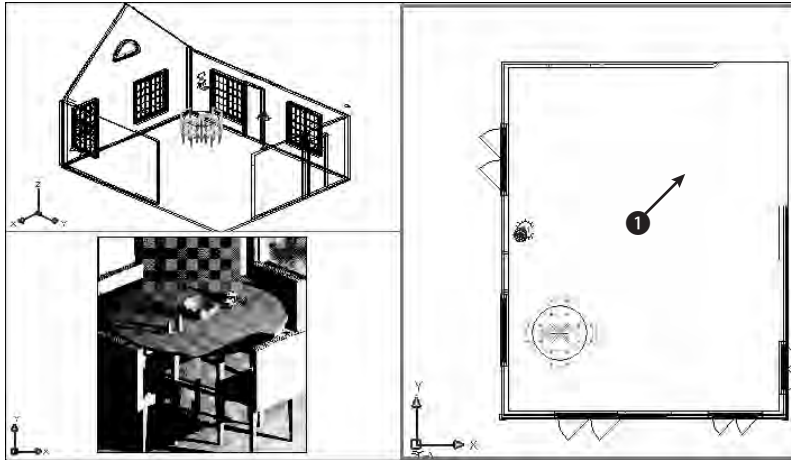

Figure 27-11: The drawing with a rendered view in one viewport
9. Choose Modify ⇨ Clip ⇨ Image. At the Select image to clip: prompt, select the image again, which is shown in Figure 27-11. Follow the prompts:
11. Click the Layout1 tab to enter paper space, which has three floating viewports. Click PAPER to enter model space. Click the bottom-left viewport. Choose View ⇨ 3D Views ⇨ Top. You should now see the images as a small dot to the left of the house. Use Zoom Window to zoom into the rendered table. Your drawing should now look like Figure 27-11.
12. Click the right viewport. If necessary, pan the house to the right until you can see the two images you attached. Move the Cottonmill Houses image to ❶ in Figure 27-11. Scale it, using a base point at its lower-left corner and a scale factor of 25. Move it until it fits nicely in the upper-right corner of the floor plan. Pan again to center the house in the viewport. (If it disappears, do a Zoom Extents.)